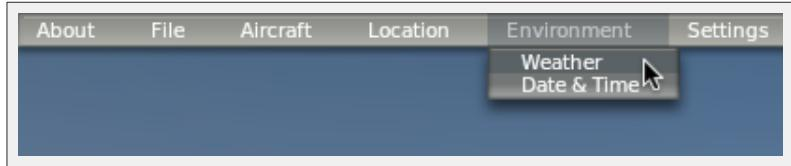

Figure 4.4: Selecting the Weather option from the Environment menu [Full size →]
1. Bring down the menu as above and click Environment, then Weather, as shown in Figure 4.4.